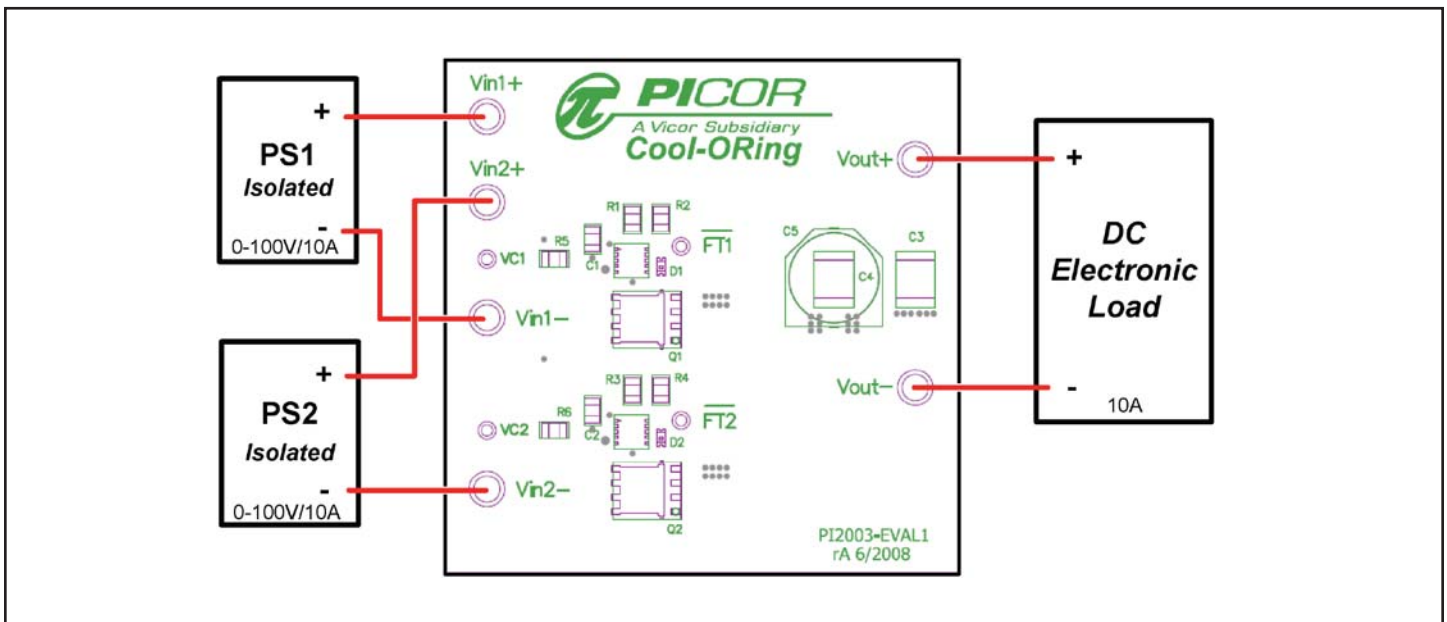

Figure 3 – Layout configuration for a typical redundant power application, using isolated power supplies.
Baseline Test Procedure (Refer to Figure 3)
## 3.0 Hook Up of the Evaluation Board, refer to Figures 3 and 4.
3.1 If isolated power supplies are used, Figure 3.